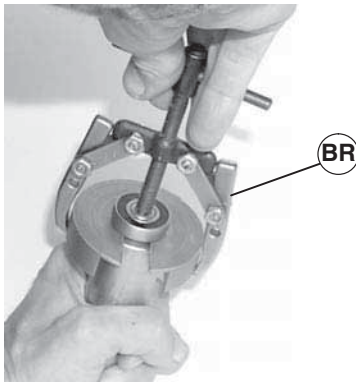

Figure 36
- Using a puller (Figure 36, item BR), remove and discard bearing.